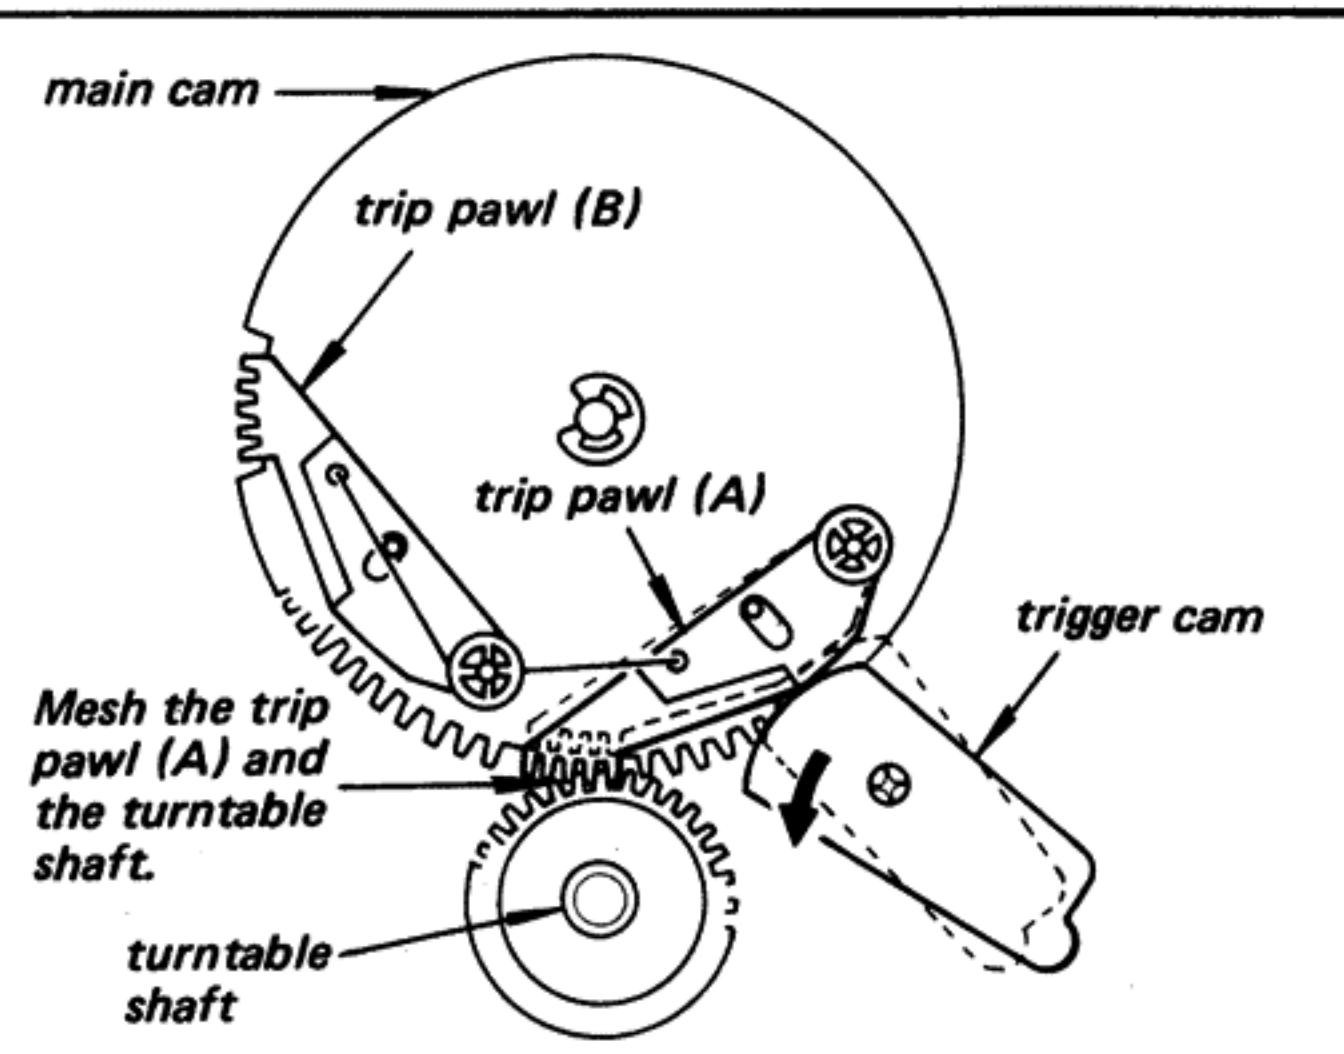

Fig. 3-15. Microswitch adjustment (2)
- Mesh the trip pawl (A) and the turntable shaft by moving the trigger cam in the arrow direction shown in Fig. 3-15. Confirm that the plunger of microswitch is not in contact with the switch arm. The microswitch becomes on.